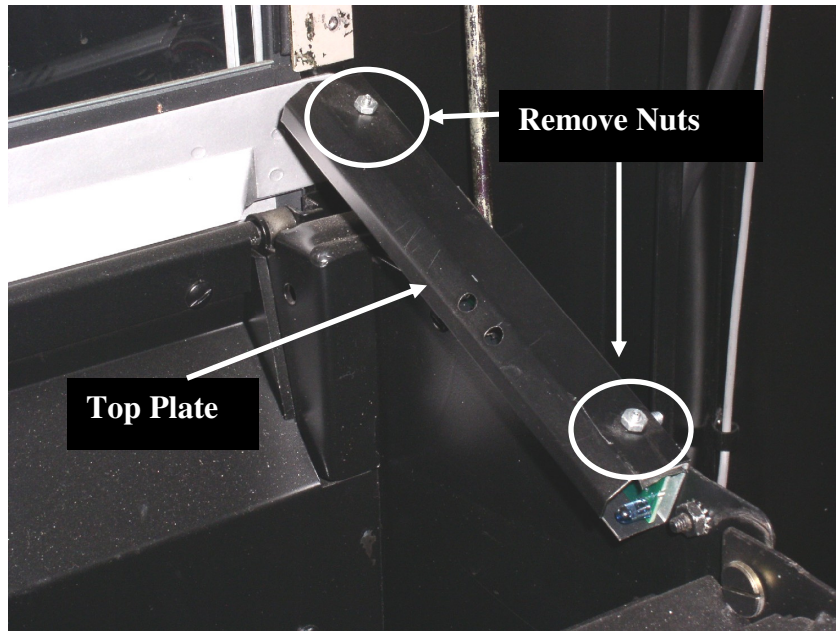

Figure 6 (Typical representation)
6) Top plate of sensor bracket must be removed before 4-pin harness can be plugged into sensor board. Remove two nuts from top of sensor bracket and lift off top plate from sensor bracket. Plug 4-pin harness into sensor board and replace top plate. Reinstall two nuts and tighten. (Figure 6)